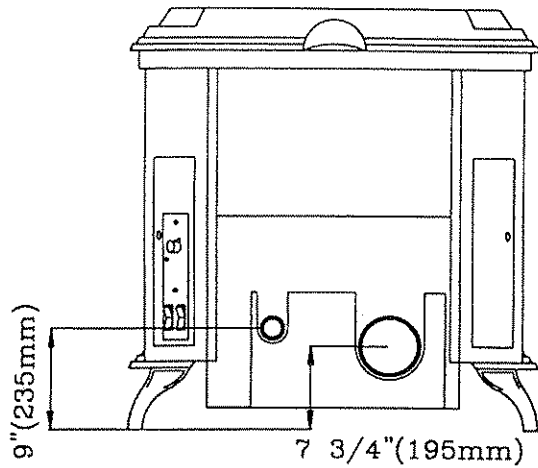

Fig. 14
1. Locate the proper position on the wall for a "PL" vent wall thimble. Use a sabre saw or key hole saw to cut hole through the wall for the "PL" vent pipe. (See pipe manufacturer's instructions for further information on fitting details, and hole size). (see fig. 14)